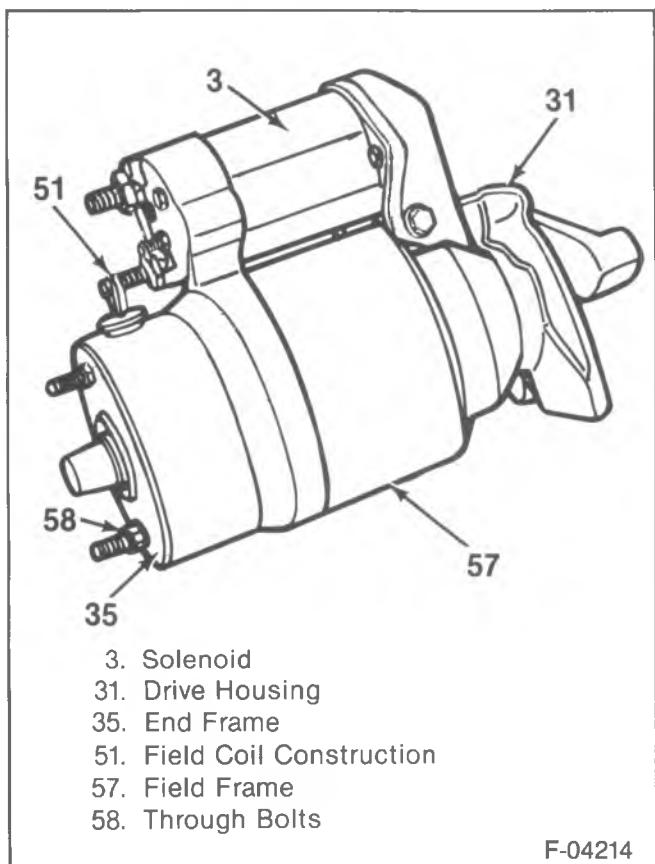
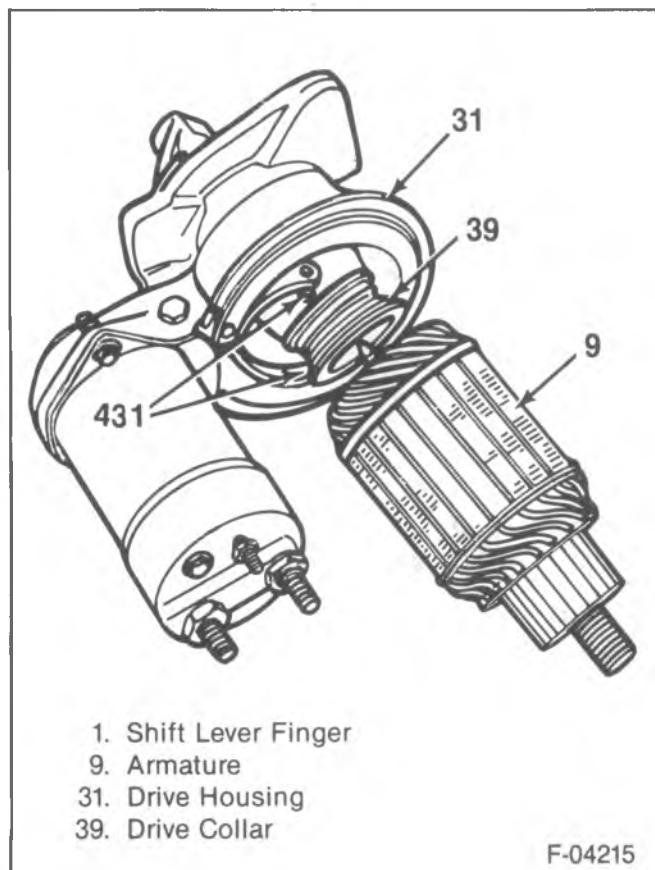

Figure 24—Light Duty Starting Motor
Figure 25—Disengaging the Drive Collar from the Shift Lever Fingers
1. Field coil strap (51) from the solenoid motor terminal (figure 24).
2. Through bolts (35).
3. End frame (41).
4. Washer (34) from the commutator end of the armature shaft (10MT and 27MT).
5. Field frame (41) from the drive housing (31) and the armature assembly (9).
6. Armature from the drive housing by tilting the armature to disengage the shift lever fingers (1) from the drive collar (32) (figure 25).- On the 27MT, it may be necessary to perform steps 2, 3 and 4 below before the drive assembly can be removed from the drive housing.